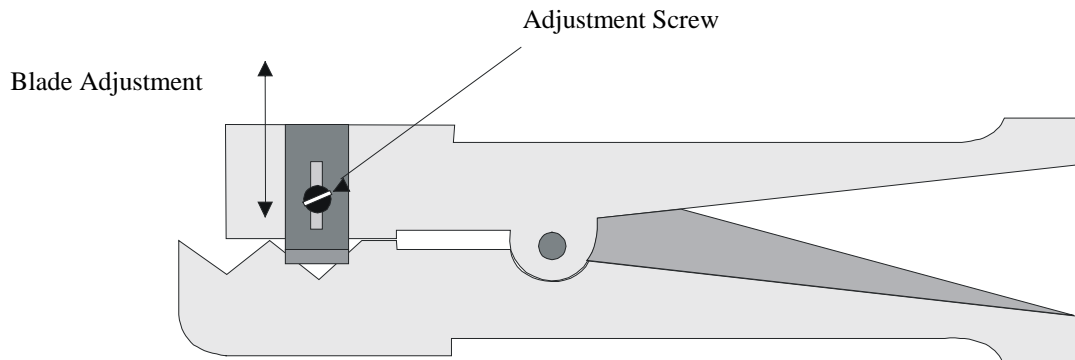

Figure B-2: Stripping Tool 1PAC10349 AKM
- **Stripping tool**—three-way stripping tool—*IPAC10349AKM* (see Figure B-2)